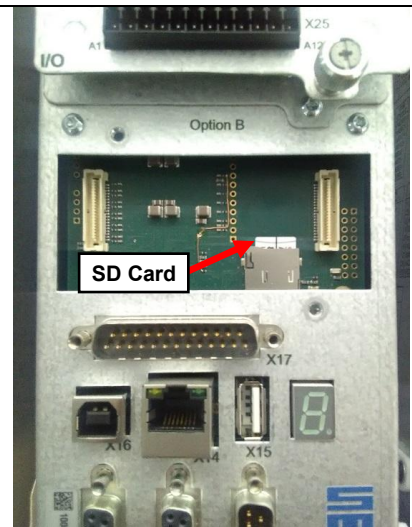

Figure 5-28
- Step 12. The SD card is accessible and visible in the old drive. (See Figures 5-28)